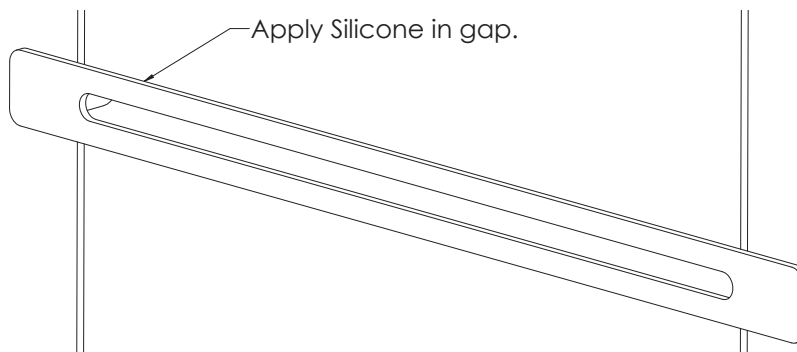

Figure 3
- Apply silicone into the gap between the faceplate and the wall materials as required to create a moisture seal, (see fig. 3).